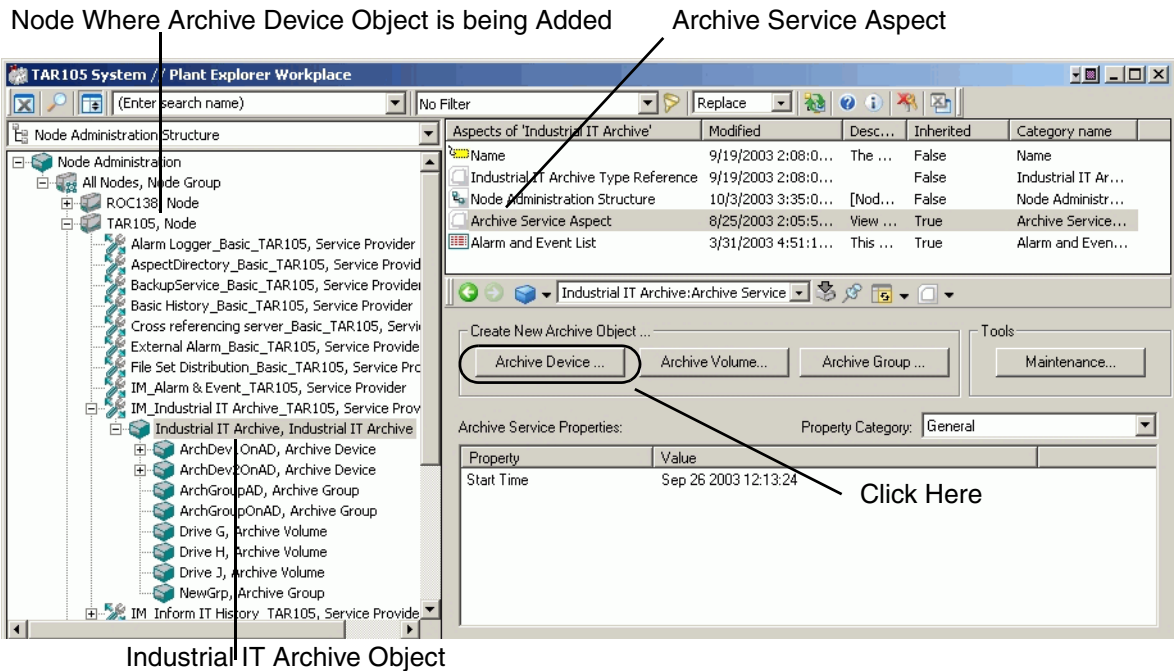

Figure 225. Adding an Archive Device in the Node Administration Structure
To add an Archive Device object (reference Figure 225 for steps 1-4):
2. Expand the object tree for the node where the archive device is being added (for example, TAR105 in Figure 225).